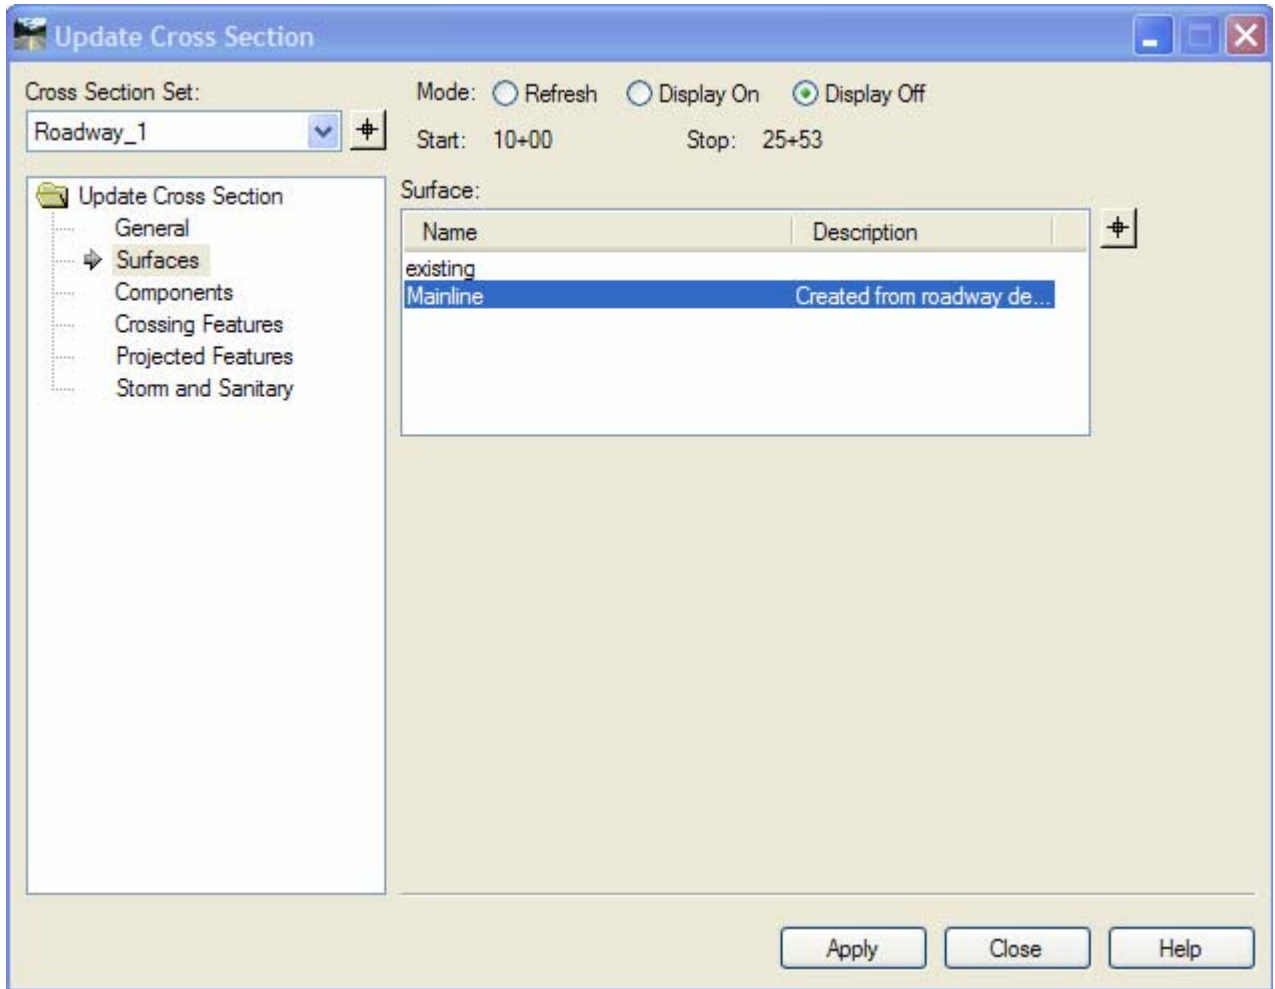

Figure 9-7 InRoads Update Cross Section Dialog Box
- A. Click on **Evaluation>Cross Section>Update Cross Section**. Figure 9-7 shows the Update Cross Section dialog box.